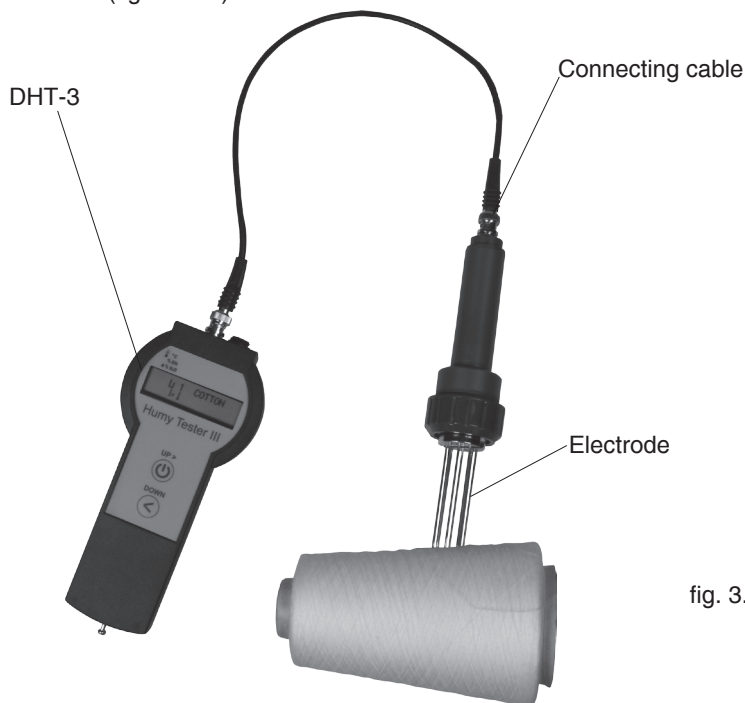

fig. 3.3.3b
- Plug in the connecting cable at the BNC connectors of the electrode and the DHT-3 moisture meter (fig. 3.3.3b).